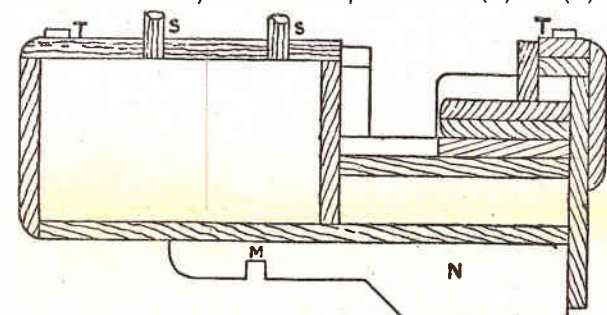

Fig. 1—Sectional view of main parts, and outline indicating position of tractor portion
Take the body of the machine first. The floor (A) has a centre partition (B) glued upon it, and then the ends (C) and (D) glued upright. The sectional view at Fig. 1 shows this clearly. The various portions forming the driver's seat and floor (E, G, H, I and J) are added between. Their position is indicated clearly by the dotted lines on pattern (F). These two pieces (F) are the sides between which all these interior pieces and the ends are glued.